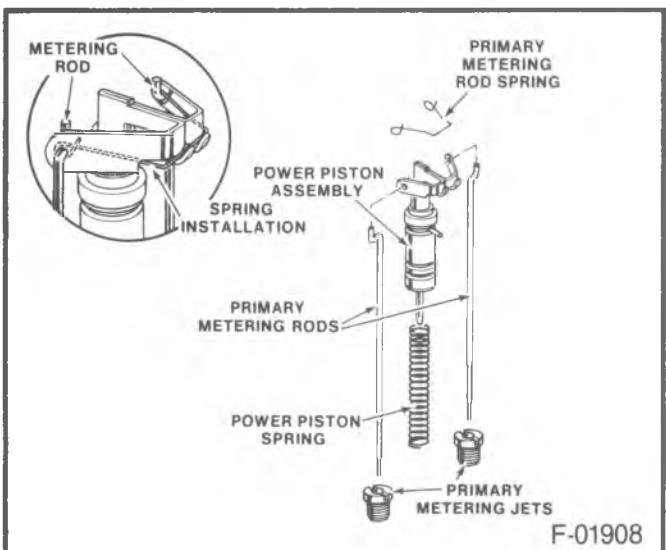

Figure 27 -- Power Piston, Metering Rods and Jets
**Disassemble (Figure 27)**
- Primary metering rods (213) and metering rod spring (214), from power valve piston assembly (212).
2. Remove power piston spring (218) from float bowl.
Primary Metering Jets**Remove or Disconnect (Figure 27)**